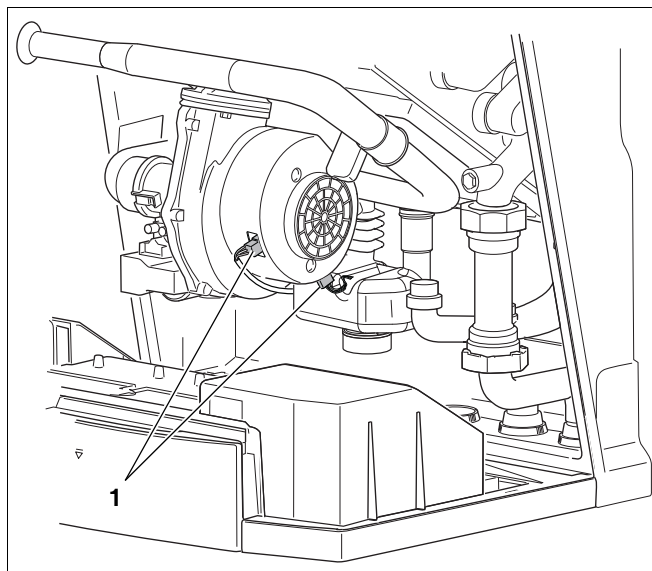

fig. 12 Disconnect the cable plug from the fan unit
- Remove both cable plugs from the fan unit (see fig. 12, pos. 1).